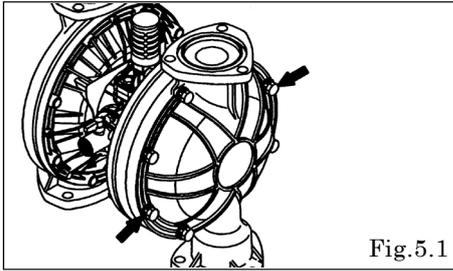

Fig. 5.1
- Remove the 16 (24 on the NDP-H80) retainer bolts from the out chamber, and remove the out chamber. [Fig.5.1]